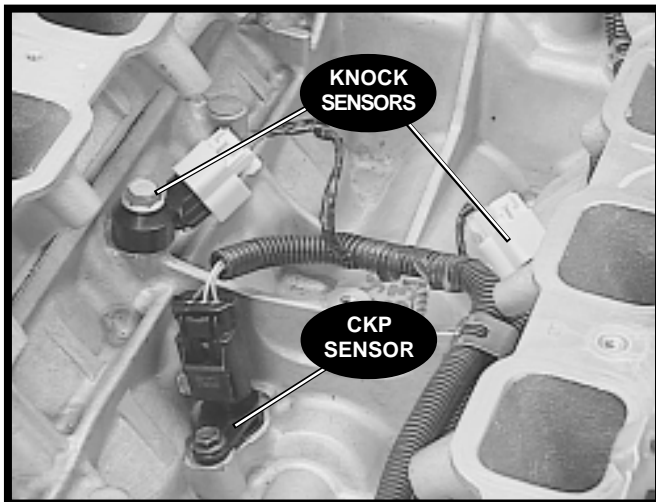

Figure 2-6, Crankshaft Position (CKP) Sensor
The Crankshaft Position (CKP) sensor is found under the intake manifold in the engine valley, rearward of the Knock Sensors (KS) (figure 2-6).